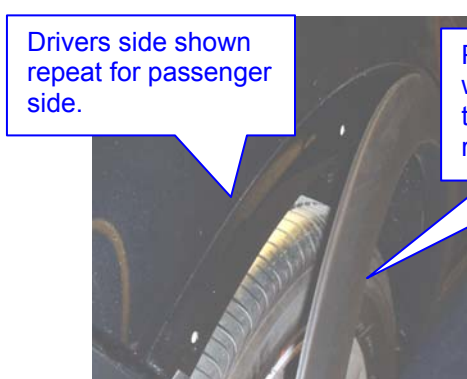

Fig 3
- d. Partially remove wheel arch trim to allow bumper to be removed see fig 3.